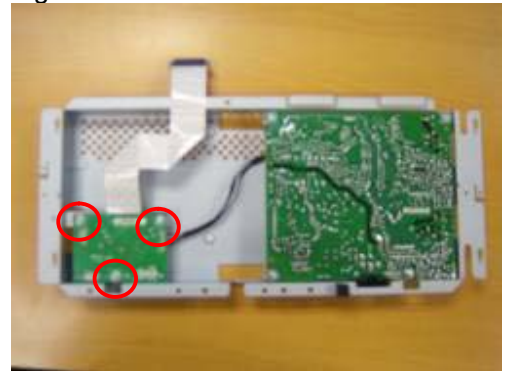

Fig.15
b. Unscrew the 3 screws to remove IF board as Fig.15